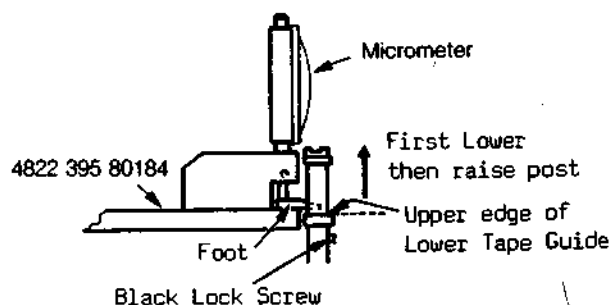

Fig. 2-12
- First lower all posts to match the height condition as shown in Fig. 2-12. The upper edge of the lower tape guide on each post should be below the bottom of the foot. Loosen lock screws located at lower position of post P2 & P3 using a lock screw wrench, then turn the posts with post adjustment screwdriver.
- Place the fixture on the adjustment plate and fit the foot to the adjustment plate as shown in Fig. 2-12. (The foot of the fixture should be fully lowered till it touches the plate.)